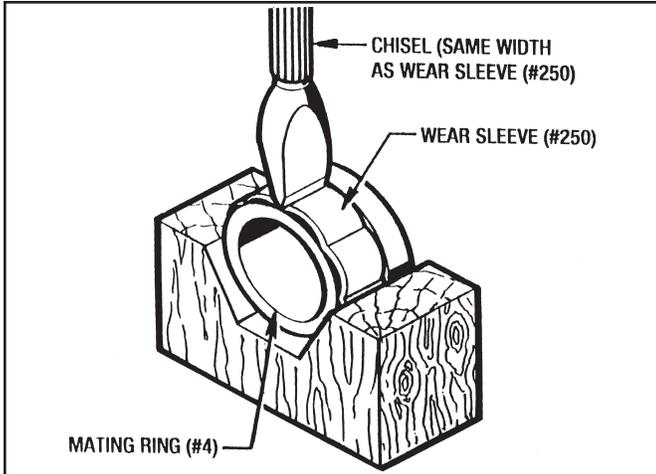

Figure 7.4 - Wear Sleeve Removal (#20 Posidyne Only)
2. Remove (6) Screws (#63) and remove the Bearing Retainer (#7), taking care not to damage the lip of the Oil Seal (#31).
4. If the Wear Sleeve (#250) needs to be replaced see **Section 7-10 WEAR SLEEVE REMOVAL PROCEDURE**. (Figure 7.4)
2. With a chisel the same width as the Wear Sleeve (#250) make about 5 or 6 notches in the Wear Sleeve, as shown in Figure 7.4. It can now be removed from the Mating Ring by hand.
3. Remove (6) Screws (#63) and remove the Bearing Retainer (#7) taking care not to damage the lip of the Oil Seal (#31).
7. Use the same procedure as described in **Section 7-10 WEAR SLEEVE REMOVAL PROCEDURE** (Figure 7.4) to remove the Wear Sleeve (#250) from the Mating Ring (#4).